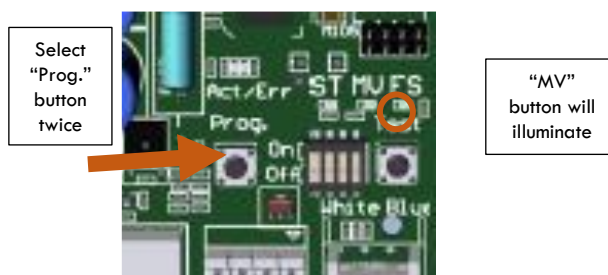

Figure 9
1. Push the “Prog.” Button **twice**. The “MV” LED light will be lit (see Figure 9).